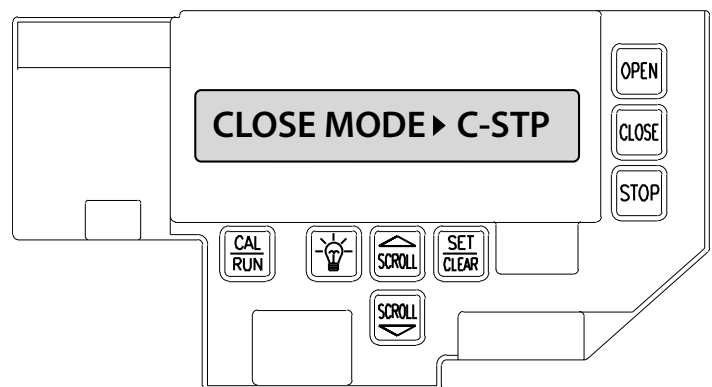

Fig. 5
4. Press SET/CLEAR until display reads "CLOSE MODE > C-STP" Fig. 5.